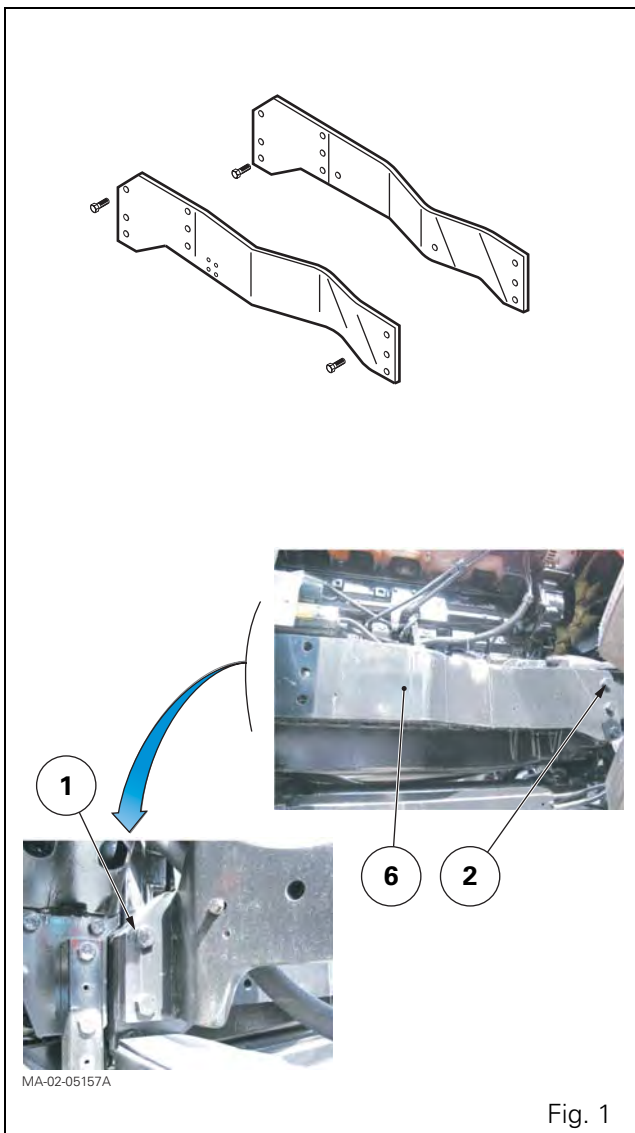

Fig. 1
They apply a longitudinal load on the rear axle through four set bolts (1) (Fig. 1).
Parts list (Fig. 1)
- of the Sisu engine (Fig. 1)
Reinforcements on Sisu engine (Fig. 1)
They are located on either side of the Sisu engine (Fig. 1).